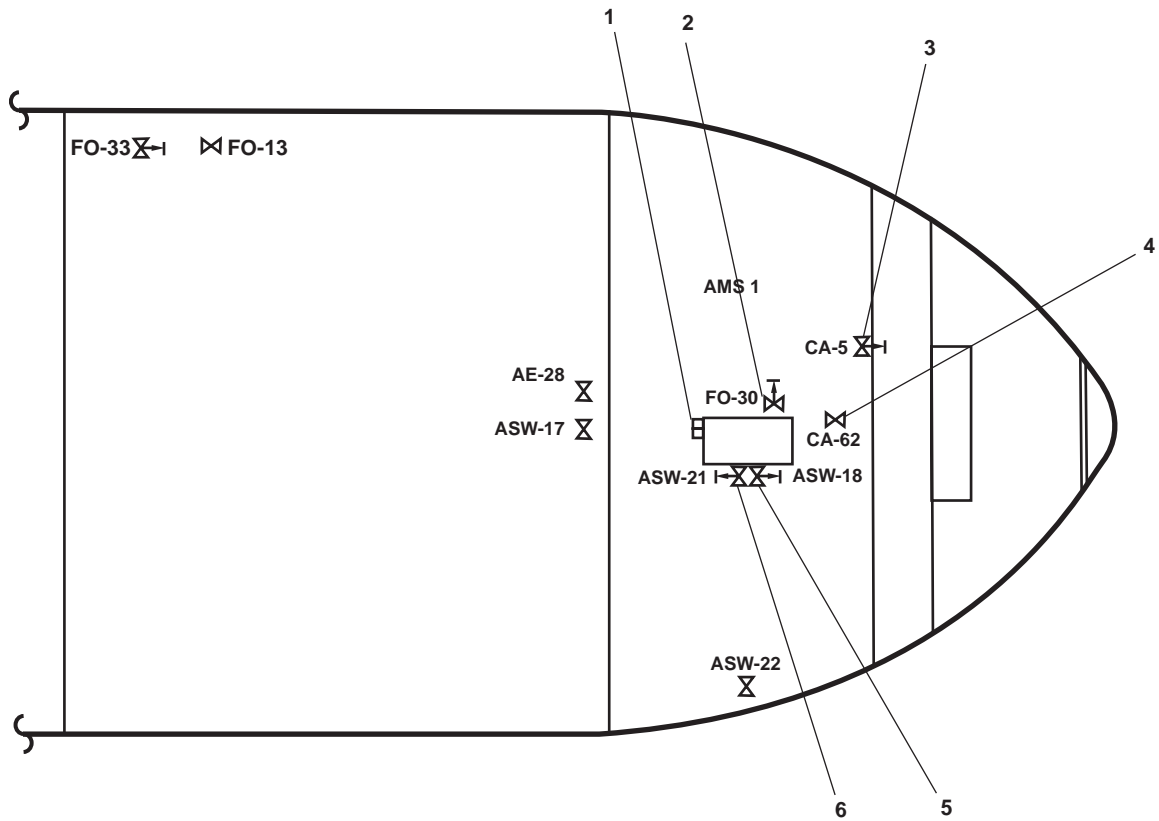

Figure 4. Bow Thruster Valve Locations
- a. Fuel filter/water separator inlet and outlet valves (figure 4, item 1), located on the bow thruster engine
- b. FO-30, F.O. SPLY TO BOW THRUSTER ENG (figure 4, item 2)
- a. CA-5, STG AIR TO BOW THRUSTER ENG (figure 4, item 3)
- b. CA-62, STARTING AIR GAUGE -COV (figure 4, item 4)
- a. ASW-18, S.W. TO BOW THRUSTER ENG (figure 4, item 5)
- b. ASW-21, S.W. FR. BOW THRUSTER ENG. TO OVB'D DISCHARGE (figure 4, item 6)